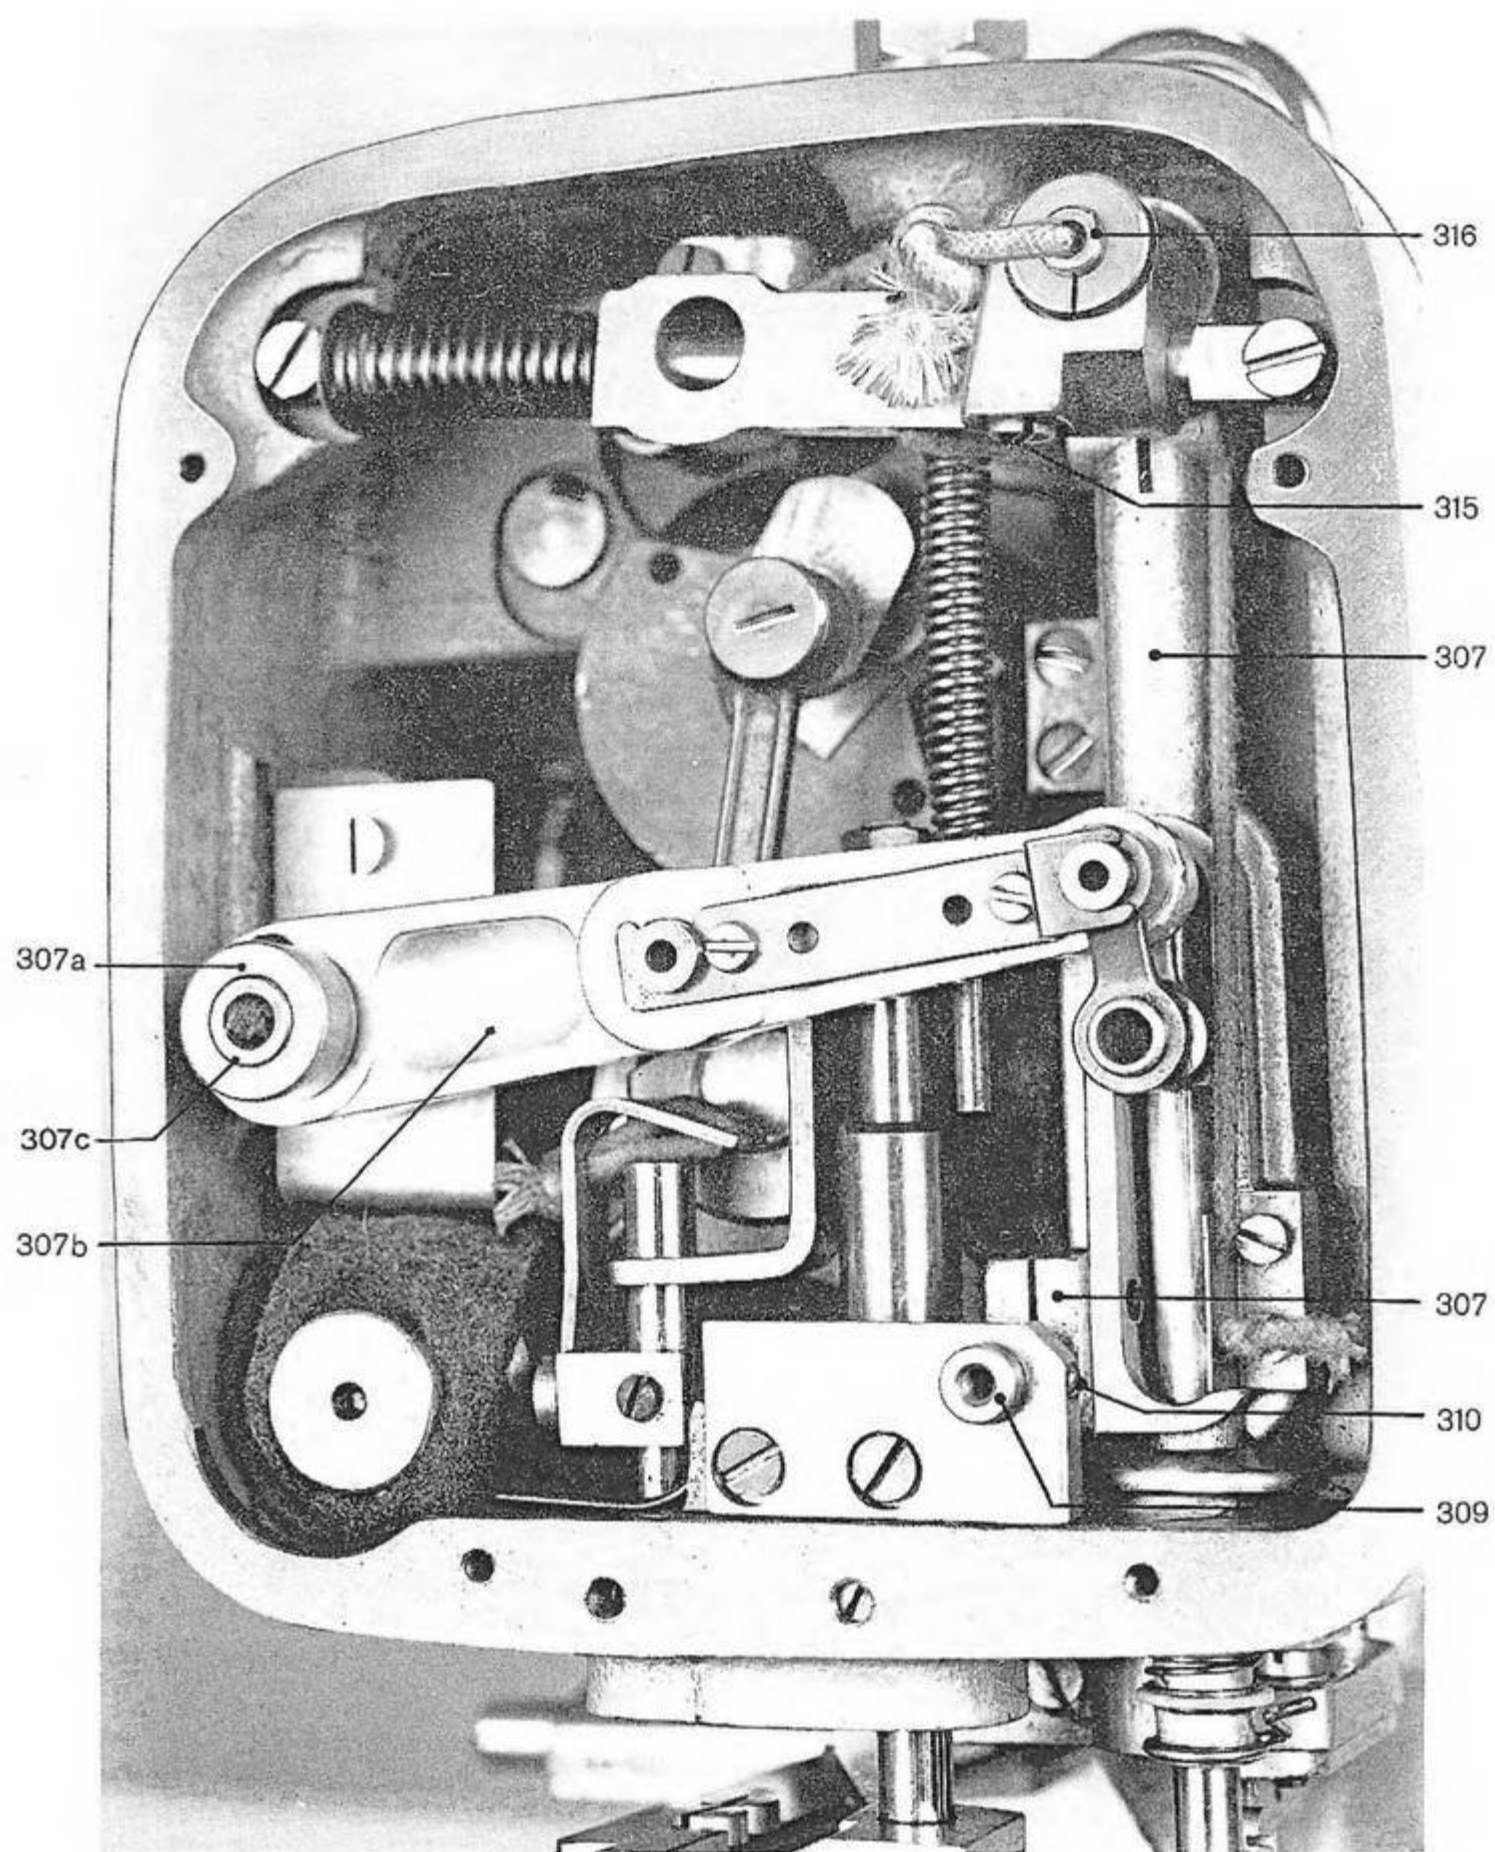

Fig. 67
2. Remove the plug 306 in the arm head and loosen the thumb screw in the needle bar crank 307 (fig. 67) through the hole which is now open.
3. Loosen the thumb screw 308 (fig. 67) and displace the needle bar crank on the bearing bolt and on the guide bolts so that the needle stands in the middle of the stitch hole. Following the adjustment, re-tighten firmly the thumb screws.
9. Turn then the clutch disk in the direction of rotation and set the needle bar at its lowest dead centre while the eccentric fork 314 (fig. 67) is at its topmost point.
8. Turn the clutch disk in the direction of rotation to bring the eccentric fork 314 (fig. 67) and continue turning the hand wheel in the direction of rotation until the paper under the cloth presser frame is stitched.